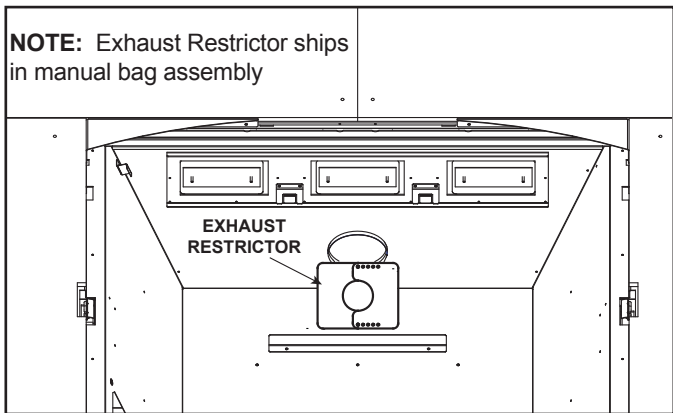

Figure 4.12 Exhaust Restrictor Installation
- 5. Center the two exhaust restrictor pieces on the vent at the setting selected in step 3 and secure in place by using two self-tapping screws. See Figure 4.12.
PVI-SLP-B: The baffle adjustment is measured using the holes on the indicator bar of the PVI-SLP-B baffle. This bar raises as the baffle is opened and lowers as the baffle is closed. Adjust the baffle by turning the screw located in the motor enclosure. See Figure 4.12 and 4.13.